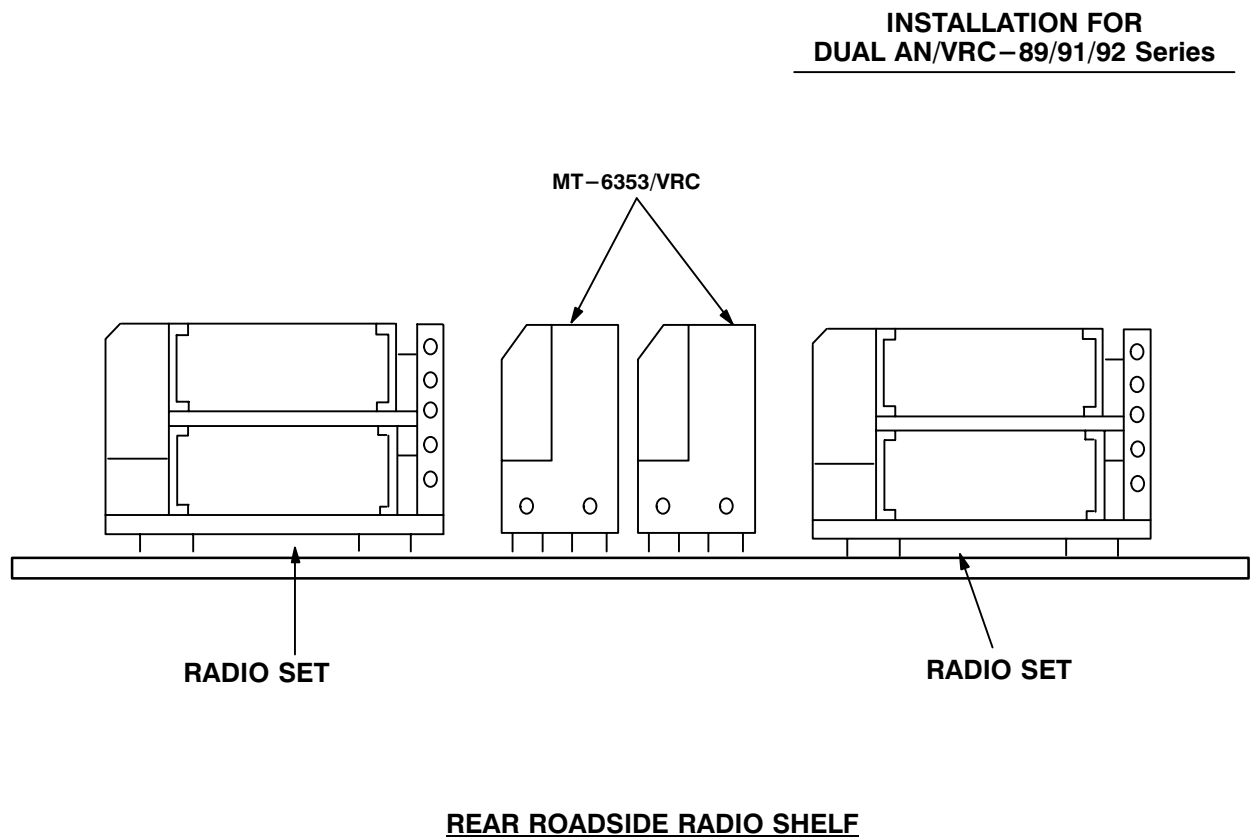

Figure 5-1(2). MK and Radio Installation: Radio Equipment Locations
5.1 Installation of Antenna AS-3900/VRC (antenna) and OE-254 Antenna Adapter. Use the following procedure to install four antennas. See figure 5-1 (1) for locations.